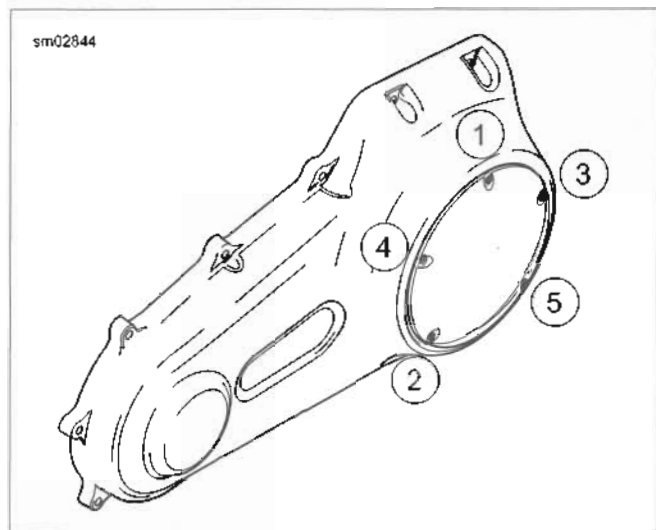

Figure 1-19. Clutch Cover Torque Sequence
- e. Following the torque sequence shown in Figure 1-19. Alternately tighten screws to 84-108 **in-lbs** (9.5-12.2 Nm).